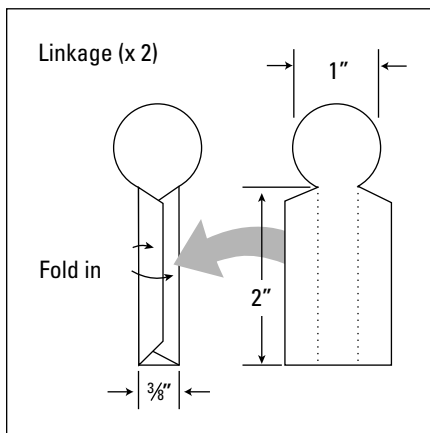

Figure 7-16:
7. Make the linkages (see Figure 7-16).